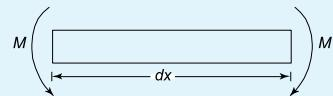

Figure 9.9
1. A cantilever of solid circular cross-section is subjected to a concentrated load of 30 N at its free end, as shown in Figure 9.9. If the diameter of the cantilever is 10 mm , determine the maximum stress in the cantilever.
2. If the cantilever of Figure 9.9 were replaced with a tube of the same external diameter, but of wall thickness 2 mm , what would be the maximum stress due to the load shown in Figure 9.9? [421 MPa]